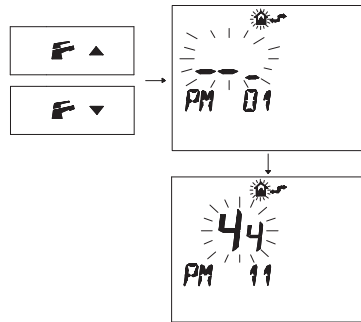

Fig. 7.34
- Press buttons **F**▼ or **F**▲ to display the “PM11” program of the pump post-circulation (Fig. 7.34).